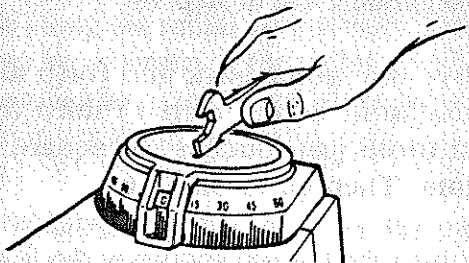

Fig. 55-A
23. Set miter indicator on 0° position as shown. (Figure 55-A)